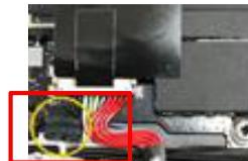

Figure 3
2. Remove the rubber (6054B3414801) (Figure 3)